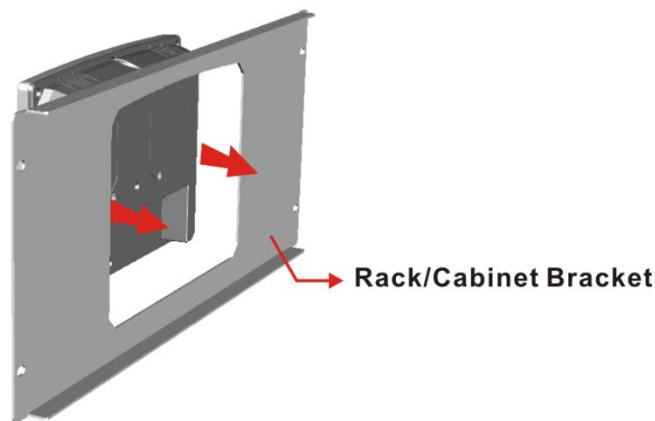

Figure 3-15: Rack/Cabinet Bracket Installation
Step 1: Slide the rear chassis of the AFL3-W07A-BT flat bezel panel PC through the rack/cabinet bracket until the frame is flush against the front of the bracket (Figure 3-15).